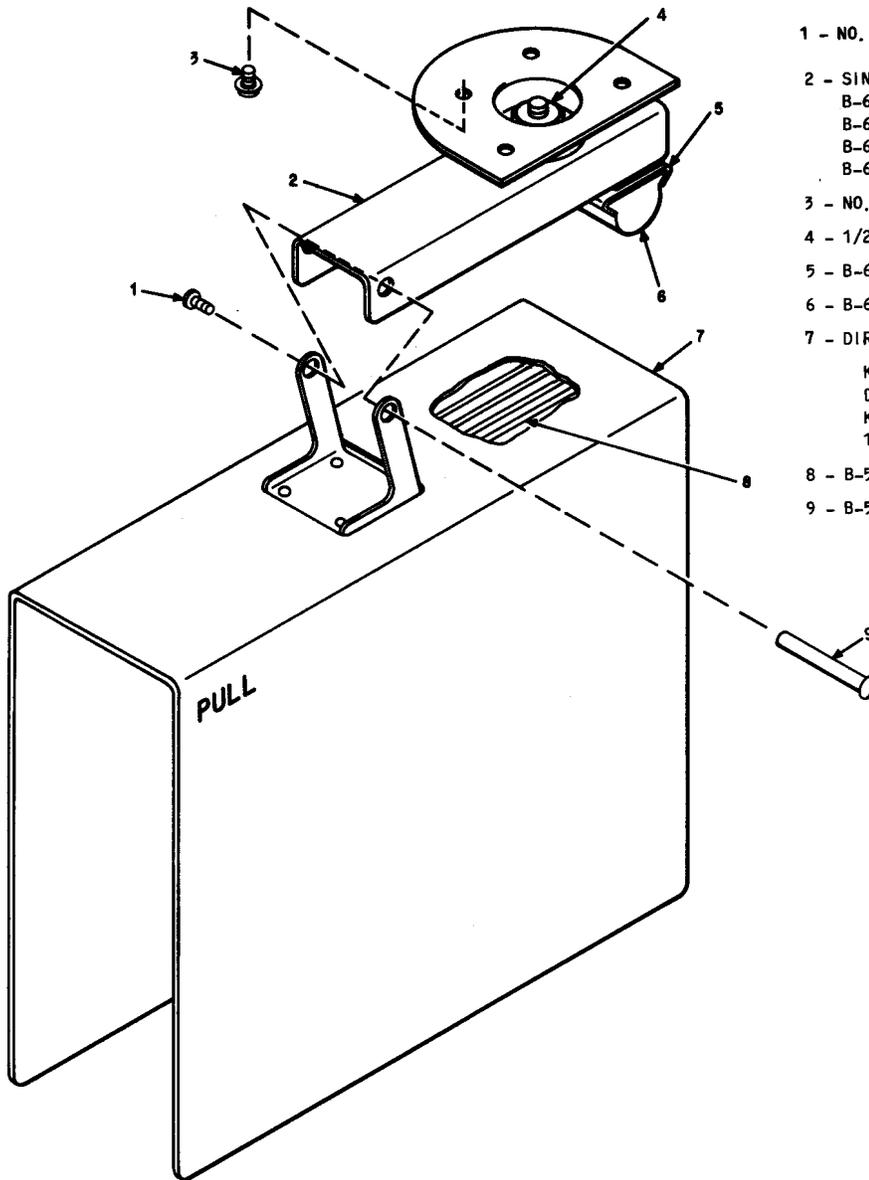

Fig. 1—KS-20030 Directory Hanger (Typical for Single Binder)
1.01 The KS-20030 directory hangers (Fig. 1 and 2) are universal hangers designed for use with various coin telephone booths, shelves, and KS-20842 SENTRY* telephone mounting. The KS-21435 directory facility (Fig. 3), is a universal (hanger) designed for use with KS-20842 SENTRY telephone mounting.
4.01 Maintenance of the KS-20030 directory hangers consists of replacing broken or damaged parts and lubricating bearings with KS-19589 lubricant. Refer to Fig. 1 and 2 for replacement parts.